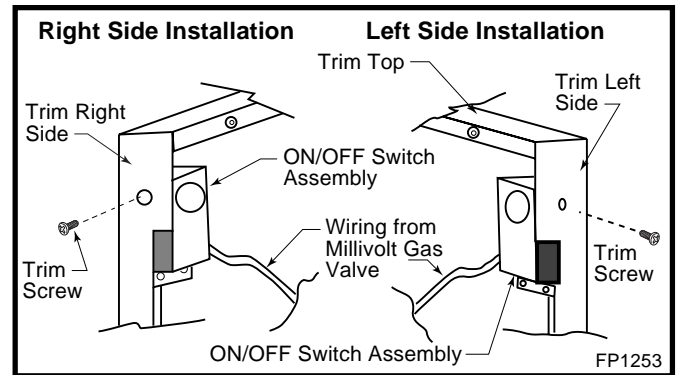

Fig. 6 Slide switch assembly between subframe and trim.
2. Slide switch assembly from the back, between subframe and trim, then fasten the screw. (Fig. 6)